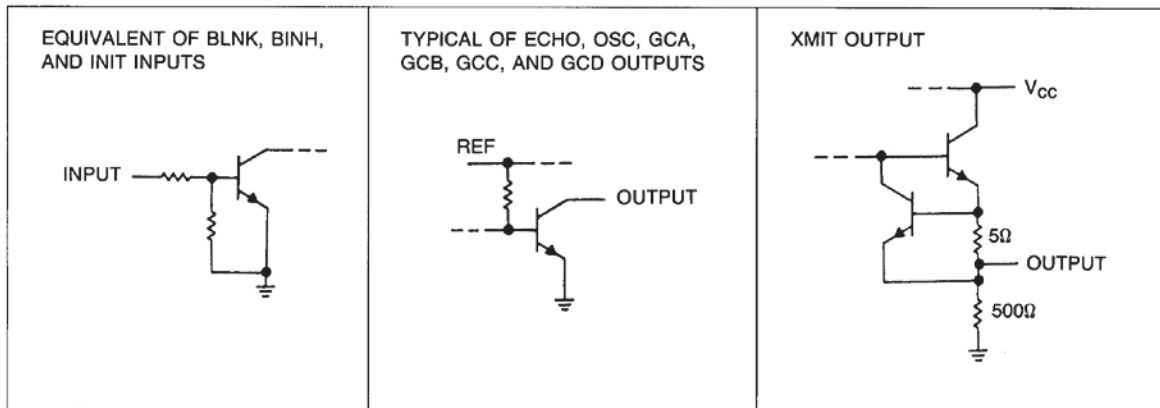

FIGURE 3-1 RANGING MODULE INPUTS/OUTPUTS
- Series 600 or Series 7000 Transducers: Connect the wire marked “E1” on the Ranging Module to the “+” connection of the transducer, and the wire marked “E2” to the “-” connection of the transducer. See Figure 3-1 for the “E1” and “E2” markings of the Ranging Module.
*Note 4.1: OSC and ECHO outputs are TTL-compatible Open Collector NPN outputs. A 4.7 Kohm resistor to +5 VDC is required to observe signals at these outputs See Figure 3-1*
*Note:* ECHO output is a TTL-compatible Open Collector NPN output (See Figure 3-1).
*Note: OSC output is a TTL-compatible Open Collector NPN output (See Figure 3-1). A 4.7 Kohm resistor to +5 VDC is required to observe signals at this output.*